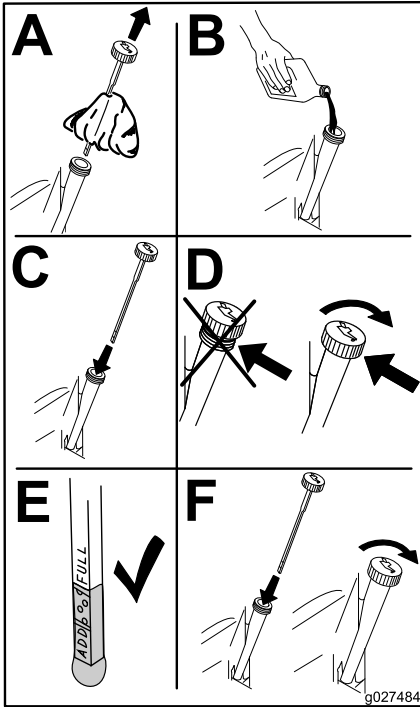

Figure 34
- Slowly pour approximately 80% of the specified oil into the filler tube and slowly add the additional oil to bring it to the **Full** mark (Figure 34).